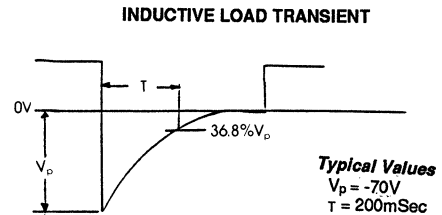

Figure 5
2. Transient voltages generated when the inductive loads (relays, solenoids, and switches) are turned off. See Figure 5.